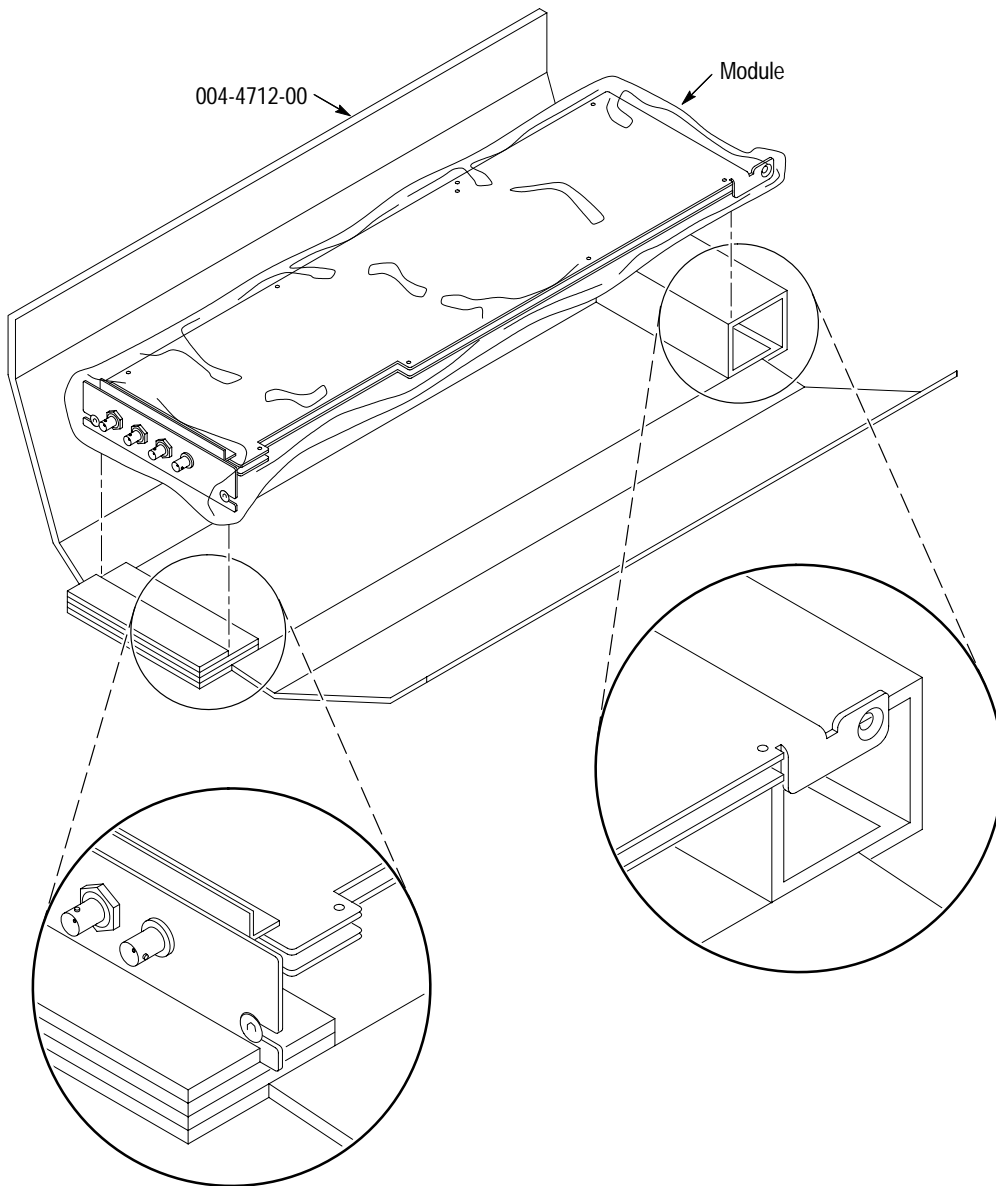

Figure 6-1: Placing the module in the protective wrapping
- 2.** Package the instrument in the original packaging materials. Figures 6-1 and 6-2 illustrate how to repack the module in the original packaging materials. If the original packaging materials are not available, follow these directions: